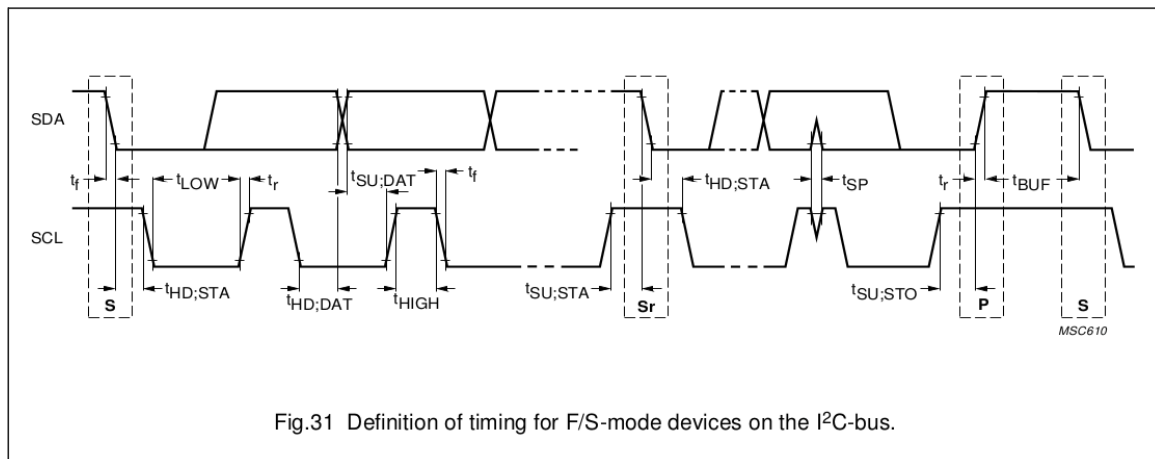

Figure 29.3-3. I2C Protocol Timing (Cited from Fig.31 in The I2C-bus specification Version 2.1)
- Command controller (CMD_Controller): generate (R)START, STOP, WRITE, READ and END commands
- SCL clock controller (SCL_FSM): generate the timing sequence conforming to the I2C protocol. Figure 29.3-3 and Figure 29.3-4 are the timing diagram and corresponding parameters of the I2C protocol.